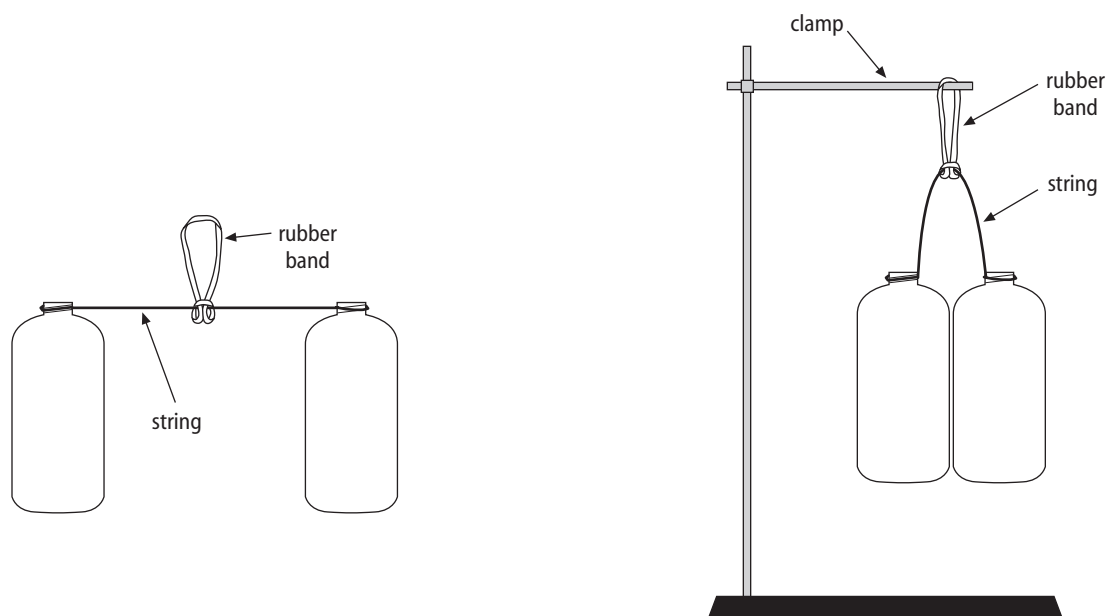

Figure 1 Experimental apparatus
6. Fasten the test tube clamp to the ring stand. Loop the rubberband over the test tube clamp. Your apparatus should now look similar to that shown in Figure 1.